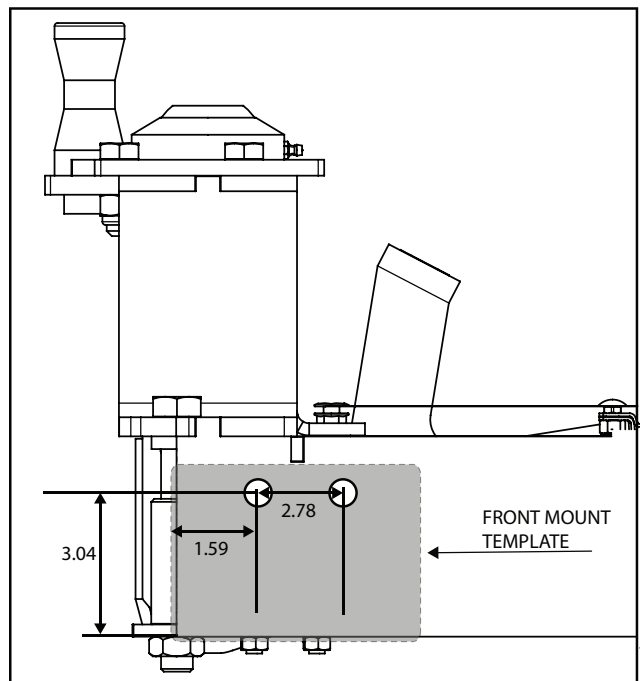

FIGURE 3
6. If there are no holes located in the side of the frame from the factory, drill two .531 holes on each side per **Figure 3** using the Front Mount Template (**Item 8**) to locate. Place the template even with the front edge of the frame and drill holes.